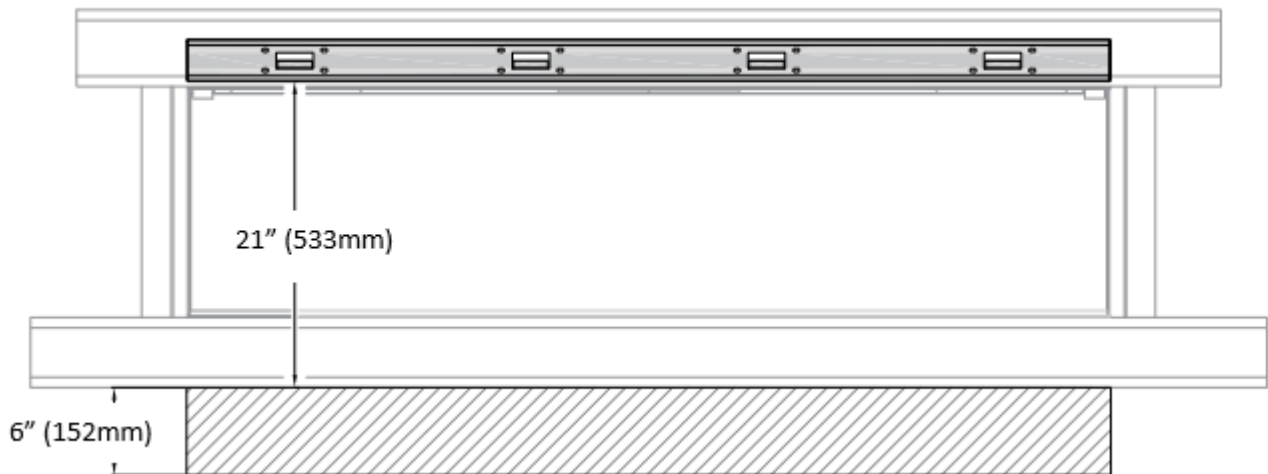

Figure 2.15 - Wall Mount Recommended Electrical Box Location
- Figure 2.15 shows the recommended electrical box location when installing the fireplace in a wall mount application with the optional Floating Mantel Kit. Ensure the faceplate of the electrical box is within the shaded area.